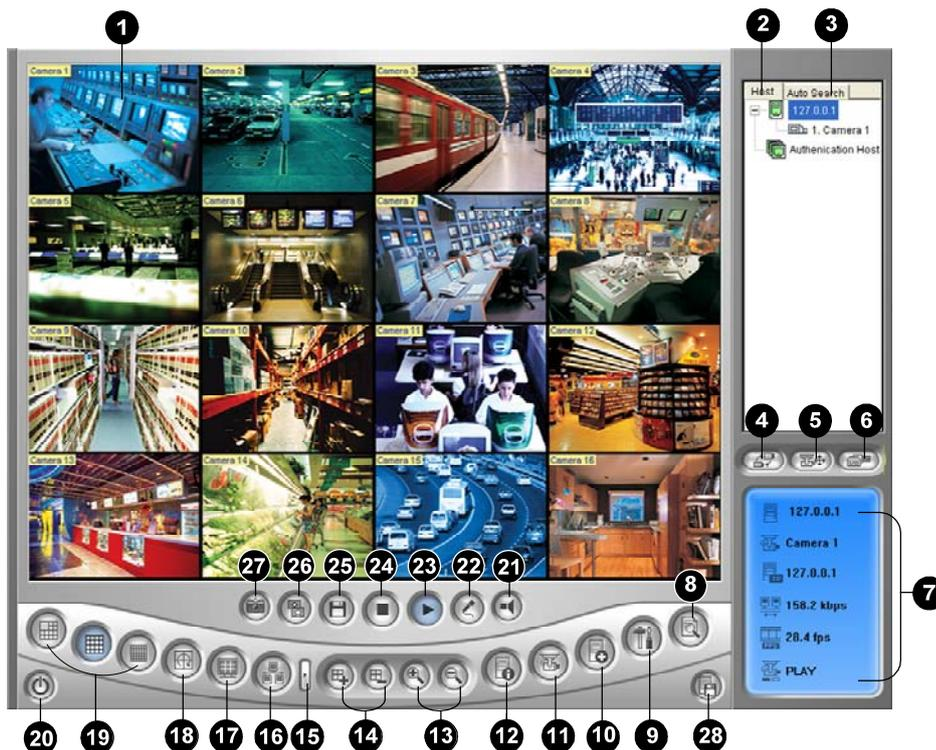

Figure 8-31 The Multi View Window
1. Click the **Edit Host** button (No. 9, Figure 8-31). This displays the following window.
1. Click the **Edit Host** button (No. 9, Figure 8-31) to display the Edit Host window. Click the **New** button and select **Group** to create a group first. Then click the **New** button again and select **Host** to create a host.
4. Click the **Save Camera to Multiple Host** button (No. 25, Figure 8-31) to create the Multiple Hosts.
You can save live videos in a client computer. The files in AVI format are playable at the third party viewer. Click the **Save** button (No.22, Figure 8-31) and then select all or several cameras to start recording. For the recorded folder, see *[Video and Audio]* in *System Configuration* topic later in this chapter.
1. Click the **Add Channel** button (No. 13, Figure 8-31), and then click the monitoring windows. The selected windows will be framed in red color.
2. Click the **Video Polling** button (No. 15, Figure 8-31). The application will rotate the selected cameras in the specified time. To configure the polling time, see Figure 8-39.
To remove one camera from the polling group, click the **Remove Channel** button (No. 13, Figure 8-31), and then click its monitoring window.
2. Click the **PTZ Control** button (No. 4, Figure 8-31).